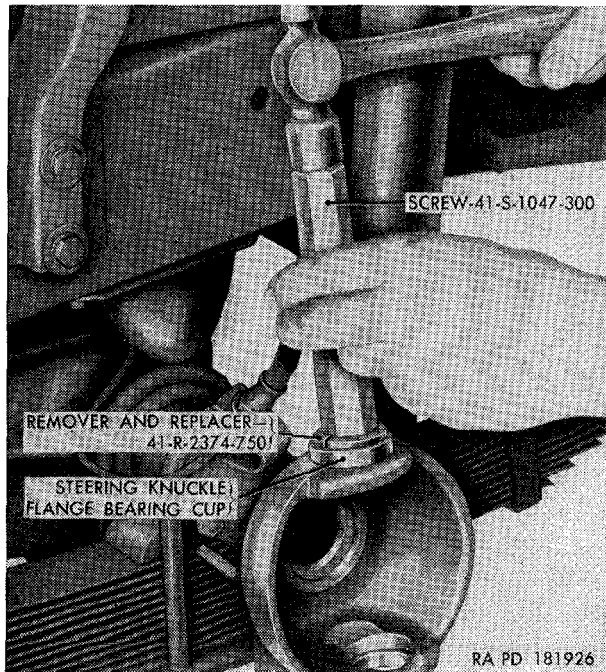

Figure 143. Installing steering knuckle flange bearing cup into front axle housing, using remover and replacer 41-R-2374-750 and screw 41-S-1047-300.
- (1) Position one steering knuckle flange bearing cup with the small inside diameter of the cup in the axle housing. Place the remover and replacer 41-R-2374-750 (fig. 143) in the cup. Install the screw 41-S-1047-300 (fig. 143) in the remover and replacer and drive the cup into the housing until the outer edge of the cup is flush with the housing. Remove the screw and the remover and replacer. Install the other cup in the same manner.